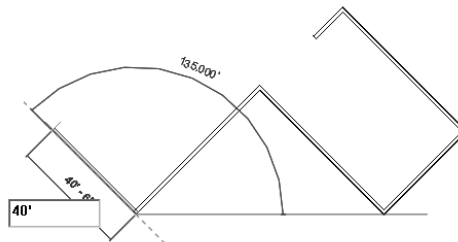

Figure 3-44 Sketching the sixth inclined wall segment
9. Next, create the connected wall segment of 40'0" length, as shown in Figure 3-44.